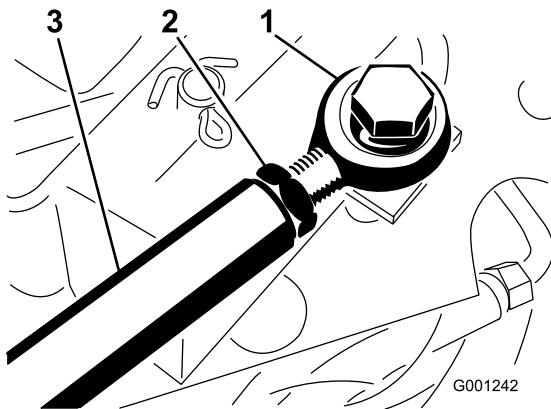

Figure 47
3. If more adjustment is required, adjust traction rod (Figure 47) as follows: